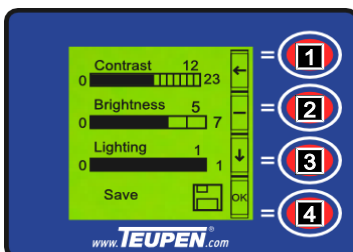

Fig. 90
1. Select the desired setting with the *[function keys]* (Fig.90/2 and 3).
2. Use the *[function key]* (Fig.90/4) to confirm the selected setting.
3. *[Function key]* (Fig.90/2) increases the desired setting's value. *[Function key]* (Fig.90/3) reduces the desired setting's value.
4. Use the *[function key]* (Fig.90/4) to confirm the value.